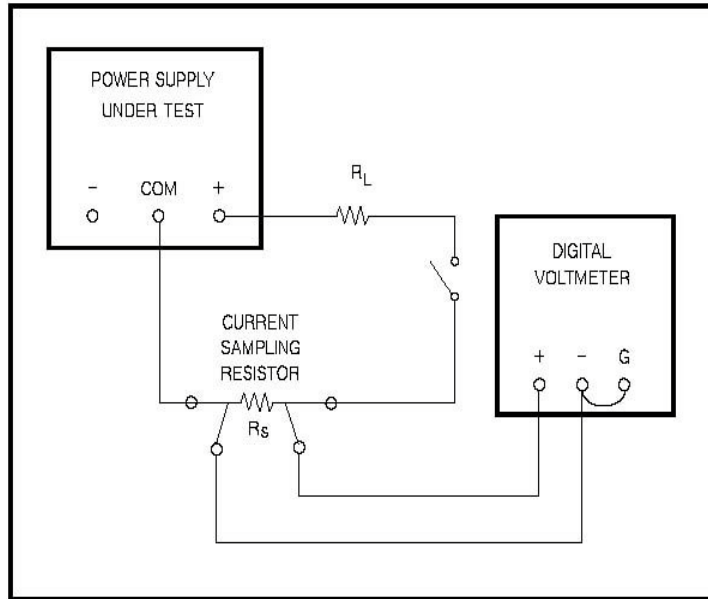

Figure 5-4 Output current, test set up
- 7 Connect the test setup shown Figure 5-4 to the +6 V output. Make the total resistance of R_L and the current sampling resistor equal to 2.4 Ω to permit operating the output at full load. R_L should have a power rating of at least 20 watts.
- 10 Check the rated output and ammeter accuracy of the +20 V and -20 V supplies similarly by connecting the test setup of Figure 5-4 to each output in turn. For each 20 V supply: make the total resistance of R_L and the current sampling resistor 40 Ω , set the ± 20 V VOLTAGE control for a current indication on the DVM of 0.5 A, check that the panel meter indication is within $\pm(0.5\% + 2 \text{ counts})$ of 0.5 A (0.48 A to 0.52 A).
- 12 Connect the test setup shown in Figure 5-4 to the +20-volt output. Substitute a short for R_L and leave the load circuit switch open.
- 16 Connect the test setup shown in Figure 5-4 to the +6 V output. Close the switch, set the total resistance of R_L and the current sampling resistor to an initial value of 2.4 Ω or greater, and set the output voltage to 6 volts.